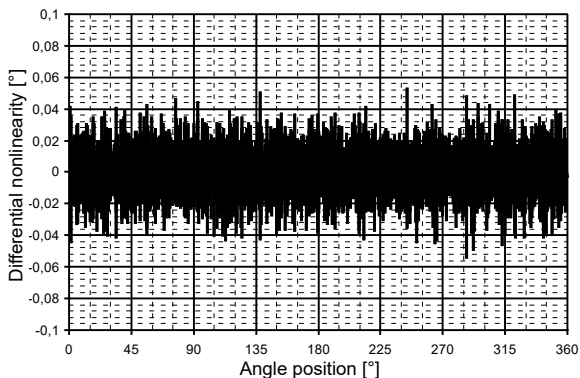

Fig. 6: Typical differential nonlinearity
**Differential nonlinearity** is the difference between the measured position step and the ideal position step. The position step is the output position difference between any two neighbouring output positions, while the ideal position step is  $360^\circ$  divided by the resolution. Differential nonlinearity is mainly caused by noise. Differential nonlinearity is always less than one position step because there is a system that prevents missing codes. Figure 6 shows a typical differential nonlinearity plot of the encoder with 10 nF filtering and default parameters.